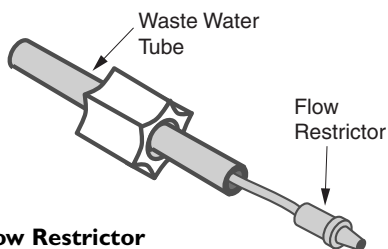

Figure 10: Flow Restrictor
4. Remove and discard the flow restrictor from the end of the black tube (see Figure 10).
5. Install the new flow restrictor in the end of the tubing as shown in Figure 10. Make sure that the collar on the flow restrictor seats against the end of the tube. **NOTICE:** Do not cut the flow restrictor.